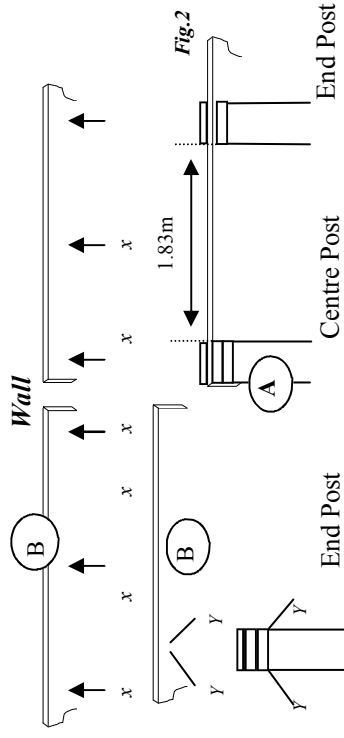

Fig.2
- Next, position one of the posts and assemble one of the remaining Rafters (B) using screws (y) - see Fig.2. The distance between the two posts should be 1.83m.